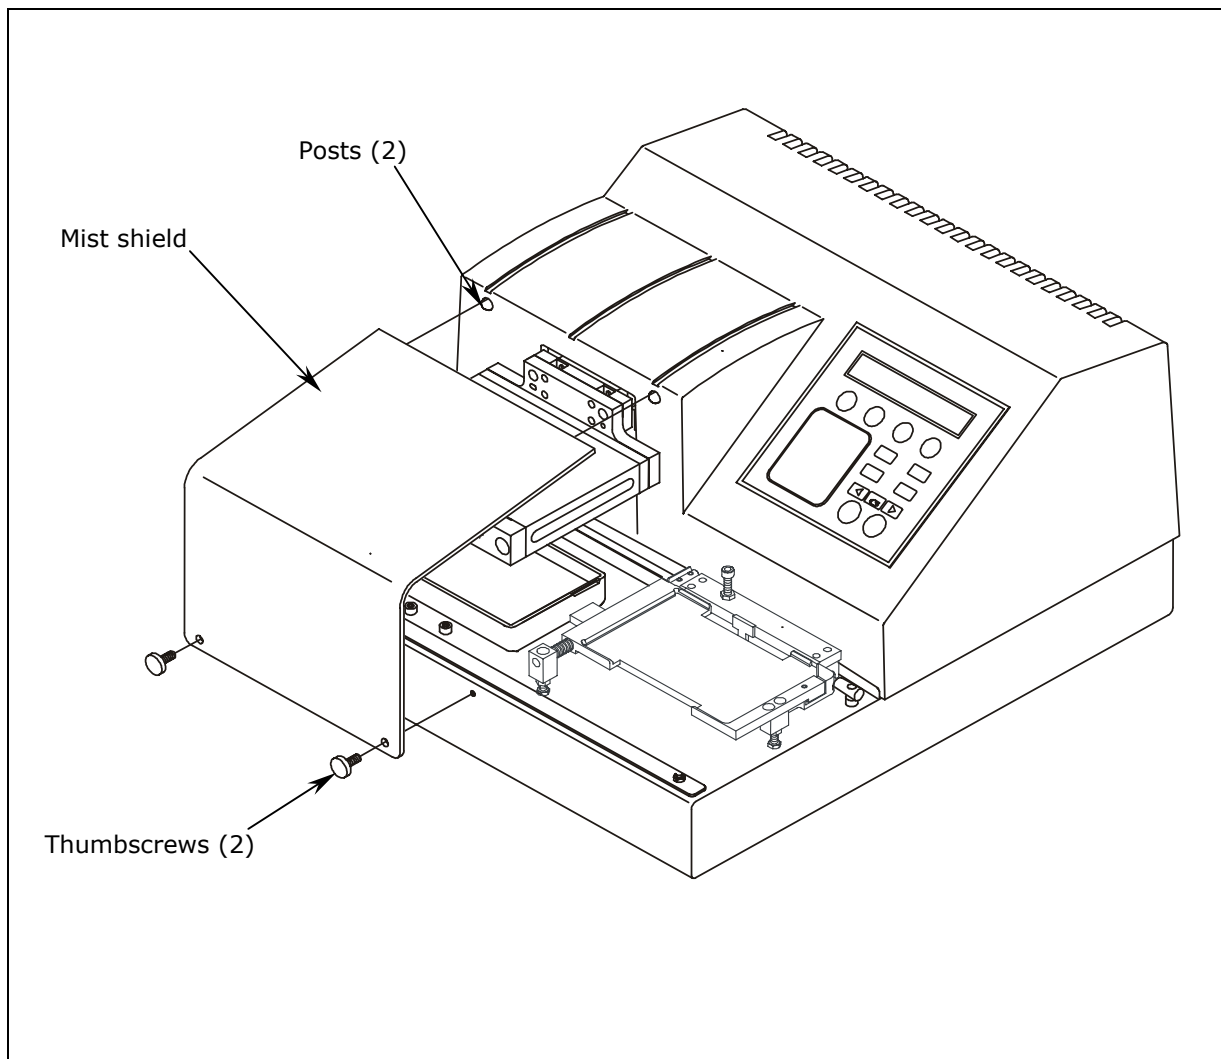

Figure 16: Attaching the Mist Shield
1. Align the mist shield with the washer so it rests on top of the two posts (shown in **Figure 16** below) and the two thumbscrew holes in the shield are lined up with the two holes in the front base of the washer.